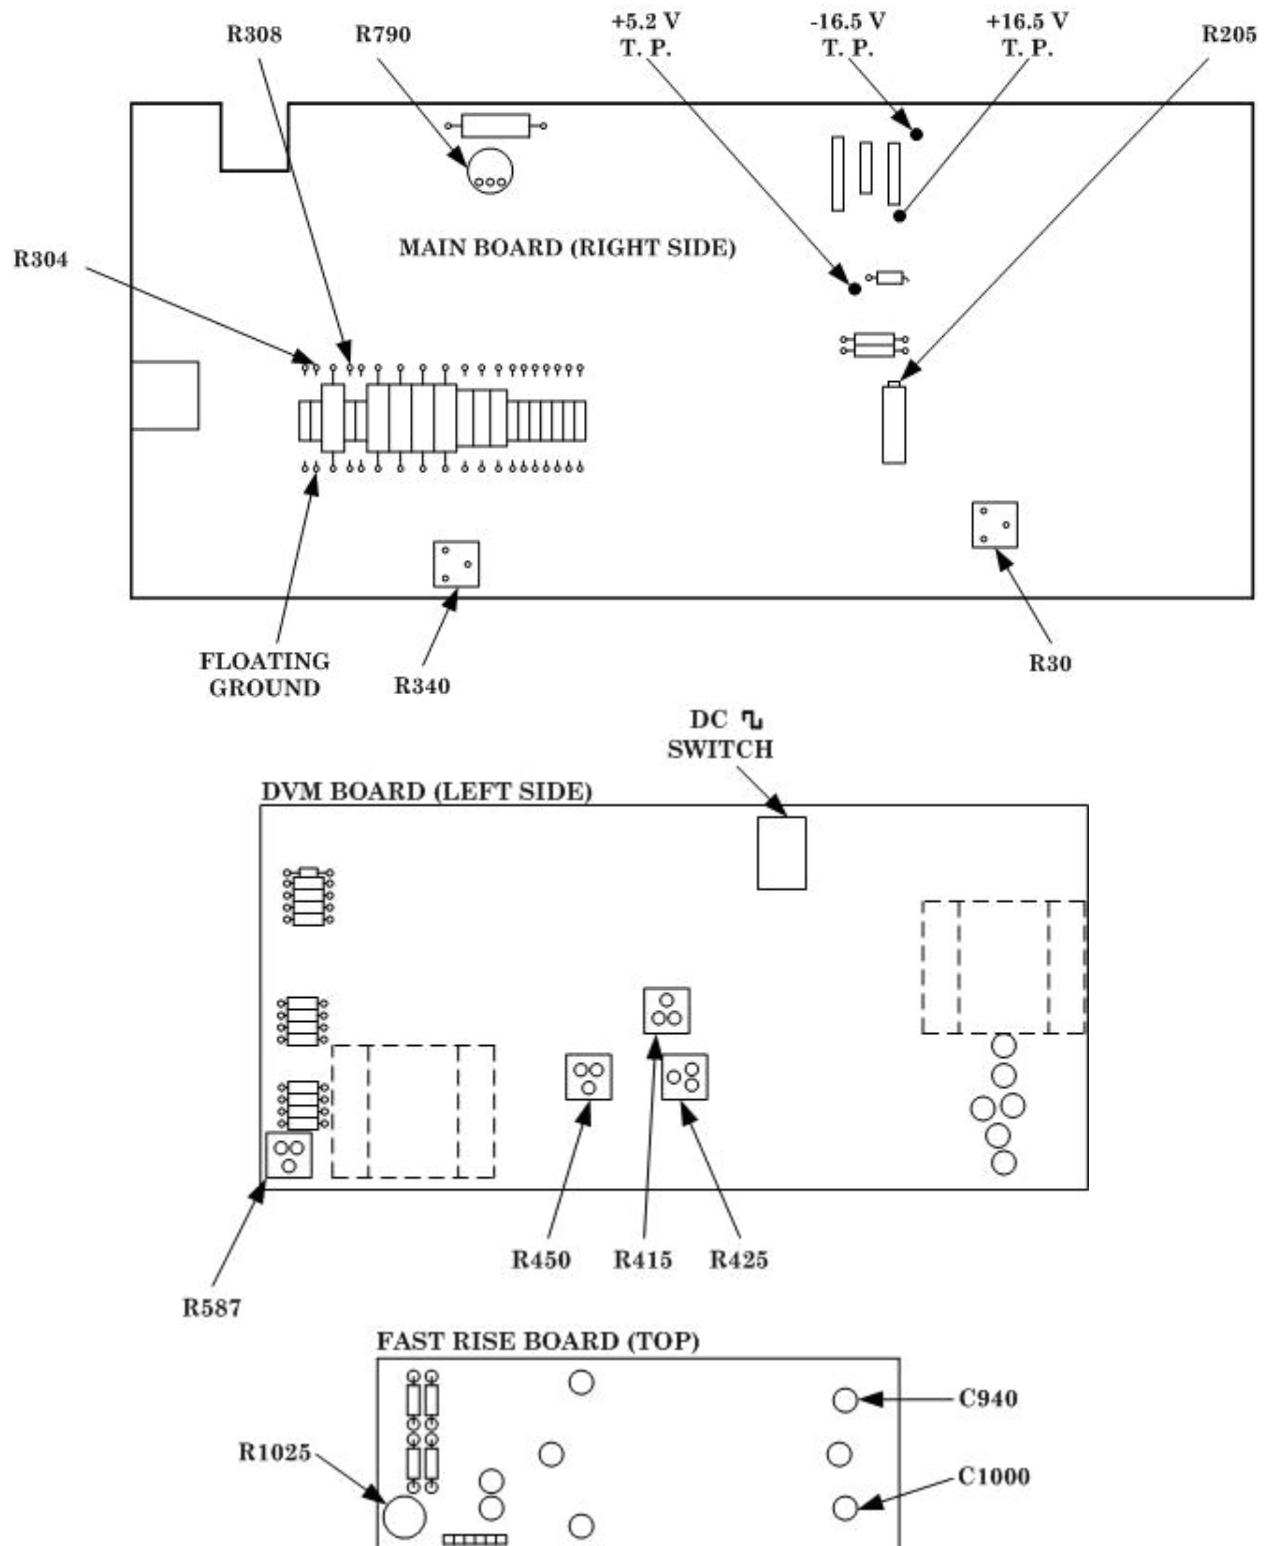
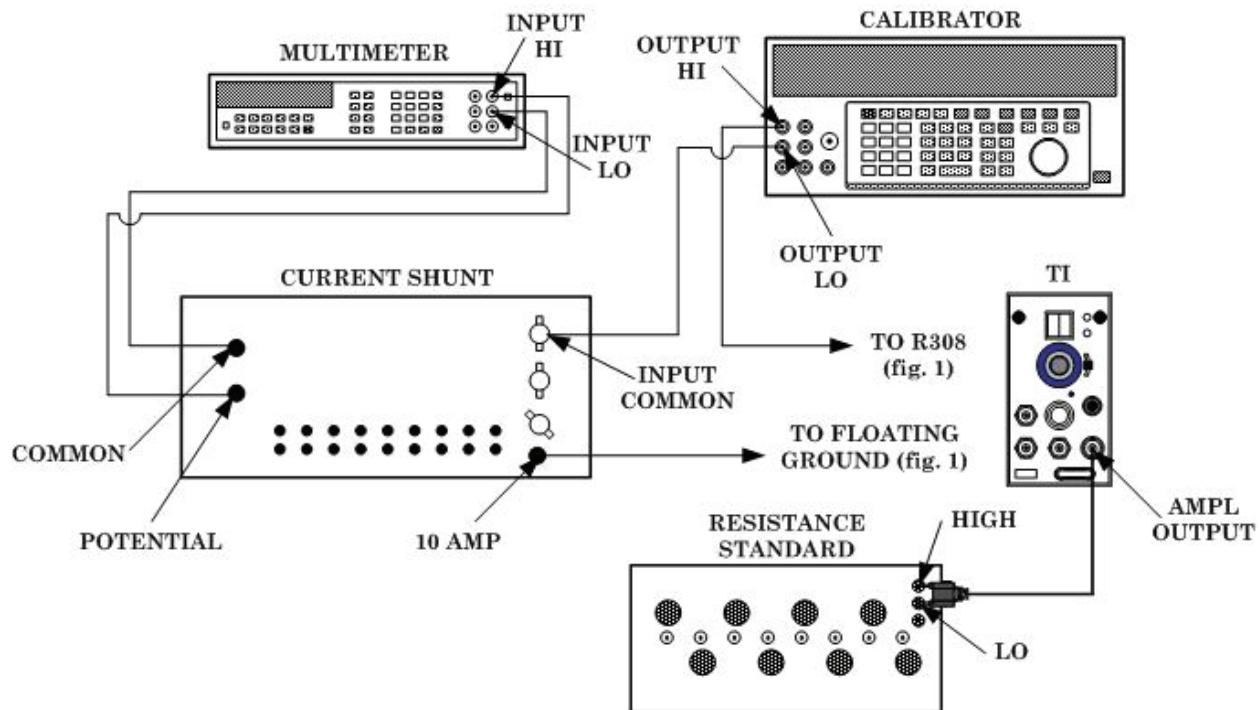

Figure 1. Calibration generator - adjustment locations.
Figure 2. Amplitude output - equipment setup.
- a.** Set TI DC  SWITCH (internal (fig. 1)) to DC (up) position.
- (13) Record multimeter indication on 0.1 volt **AMPLITUDE** switch position.
- (14) Deenergize power module and remove TI.
- (15) Connect equipment as shown in figure 2.
Verify the multimeter indication at the common and potential terminals on the dc current shunt (fig. 2) when setting levels in (20) and (24) below and when changing **AMPLITUDE** setting in (21) and (25) below.
- (20) Readjust calibrator until multimeter indicates exactly 10 times the value recorded in (13) above.
- (21) Turn **AMPLITUDE** switch to **10m**. Multimeter will indicate between 99.75 and 100.25 mV.
- (22) Record multimeter indication.
- (23) Disconnect lead from R308 and connect to R304 (fig 1).
- (24) Adjust calibrator until multimeter indicates exactly 10 times the value recorded in (22) above.
(25) Turn **AMPLITUDE** switch to **1m**. Multimeter will indicate between 99.75 and 100.25 mV.
- (1) Adjust R205 (fig. 1) until multimeter indicates 100.00 V (R).
- (2) Adjust R340 (fig. 1) until multimeter indicates 10.000 V (R).
- (1) Adjust R450 (fig 1) until **DEFLECTION ERROR** indicates 0.1% **HIGH**, then 0.1% **LOW**, and for a final adjustment of 0.0% with both **HIGH** and **LOW** indicator lights slightly illuminated (R).
- (2) Adjust R425 (fig 1) until **DEFLECTION ERROR** indicates 6.8% **LOW**, then final adjustment to center of 6.8% **LOW** (R).
(3) Adjust R415 (fig 1) until **DEFLECTION ERROR** indicates 7.3% **HIGH**, then final adjust to center of 7.3% **HIGH** (R).
- (1) Deenergize power module.
- (2) Set TI DC  SWITCH (internal (fig. 1)) to  (down) position.
- (3) Energize power module.
- (4) Turn TI **AMPLITUDE** switch to **10**.
- (5) Connect frequency counter to TI **AMPL OUTPUT**. If frequency counter does not indicate between 952.38 and 1052.6 hertz, perform **b** below.
b. Adjustments. Adjust R587 (fig. 1) until frequency counter indicates 1.00 millisecond (R).
- (1) Connect oscilloscope **Vertical 1** input to TI **AMPL OUTPUT**, using 50Ω feedthrough termination.
- (2) Turn **PERIOD** switch to $1 \mu\text{s}$ and **PULSE AMPLITUDE** control fully clockwise. Set mode switch to **HIGH AMPL**.
- (3) Adjust oscilloscope for a stable display with vertical scale set to 1 V. If oscilloscope does not indicate at least 5 volts peak-to-peak, perform **b** below.
- (4) Repeat (3) above for each **PERIOD** switch position.
- (5) Remove termination from equipment setup.
- (6) Turn **PERIOD** switch to $1 \mu\text{s}$. Oscilloscope display amplitude will be at least 60 volts peak-to-peak.
- (7) Turn **PULSE AMPLITUDE** control fully counterclockwise. Oscilloscope display amplitude will be 6 volts or less.
b. Adjustments. Adjust R790 (fig. 1) until oscilloscope display indicates 5.2 peak-to-peak (R).